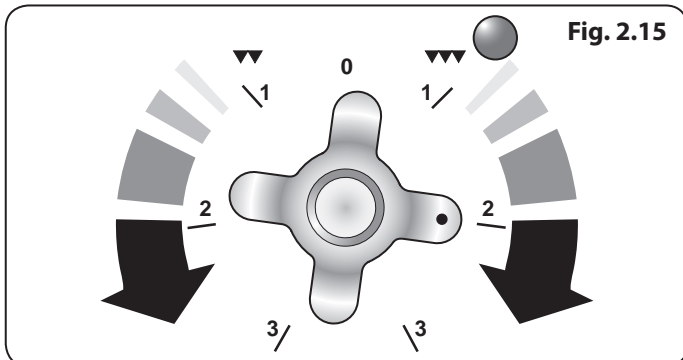

Fig. 2.15
3. Adjust the heat to suit by turning the knob. To heat the whole broiler, turn the knob clockwise (Fig. 2.15).